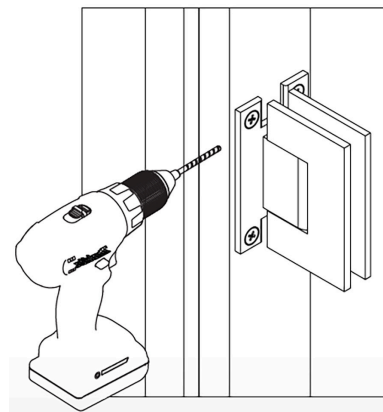

FIGURE 24
These are not necessary, but highly suggested to eliminate any movement during usage. Using a 1/8" drill bit, drill two pilot holes through both the Hinge Jamb (B) and the Wall Jamb (A) centered vertically with the Door Hinges (E). (See Figure 24)